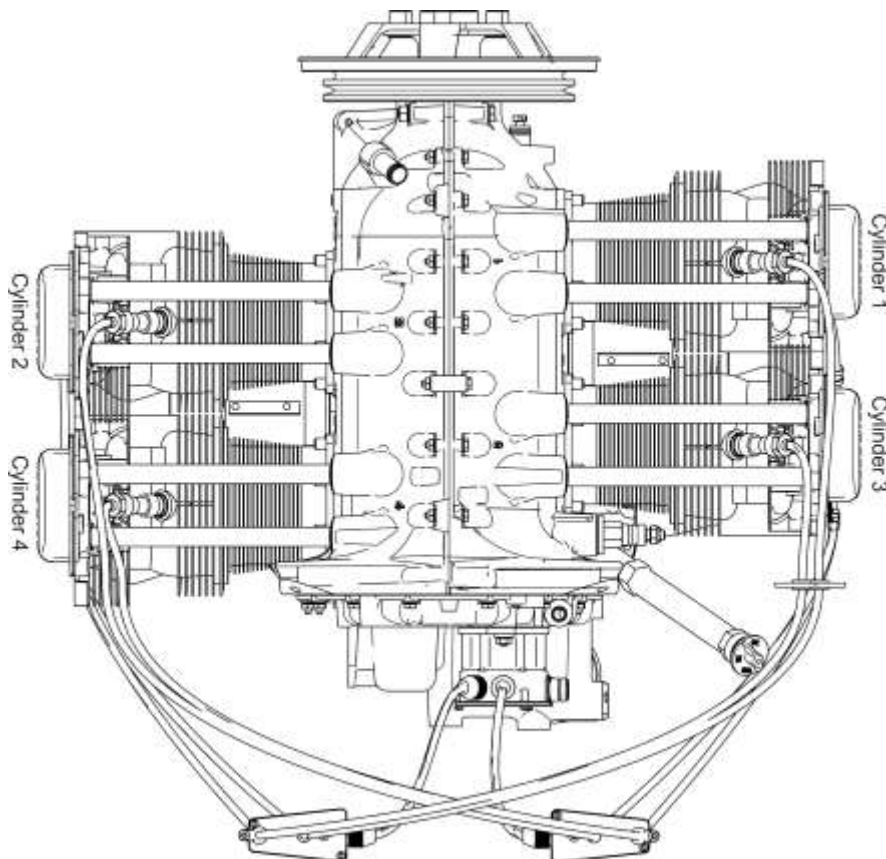

Figure 3
- In a top view of the engine, the left side cylinders are 2-4. Cylinder 2 is at the front of the engine. Refer to Figure 3.
- In a top view of the engine, the right side cylinders are 1-3. Cylinder 1 is at the front of the engine. Refer to Figure 3.